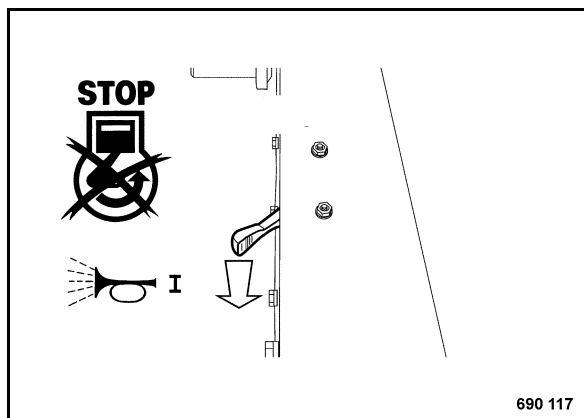

Fig. 29
- Set the throttle lever to position "STOP" (Fig. 29), the warning buzzer sounds.